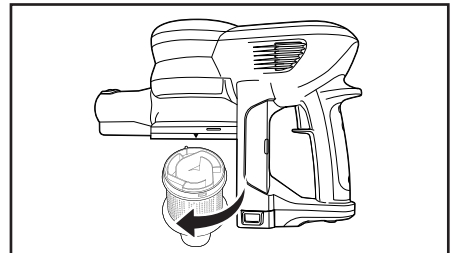

Fig. 4
2. Turn the internal cylinder clockwise to remove from the main body (Fig. 4).